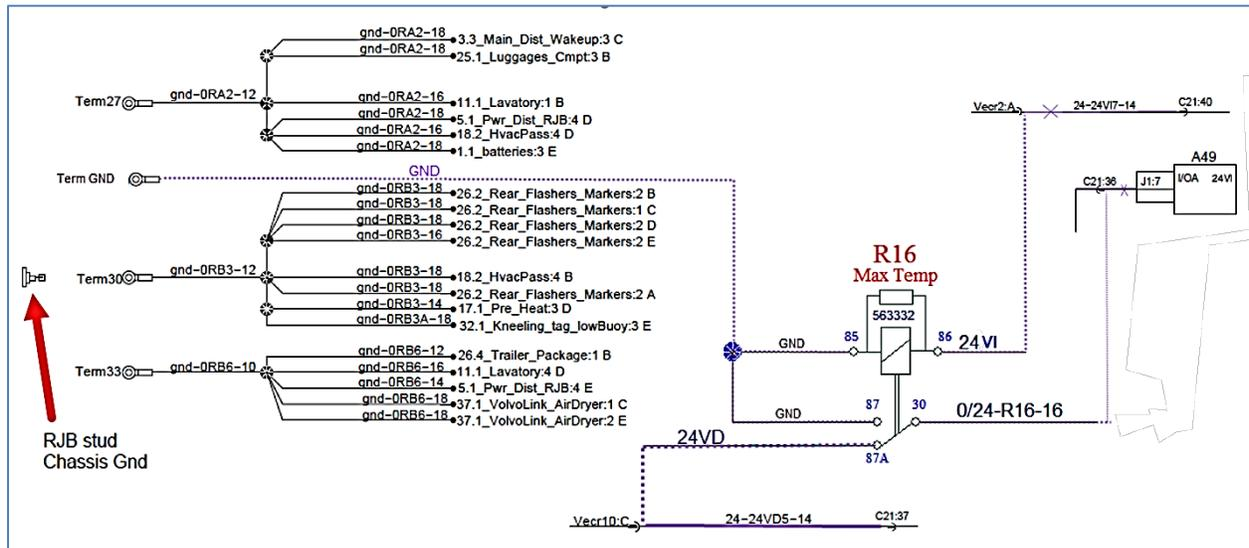

FIGURE 35
16. In the main power compartment: connect circuit 24VI of harness 0610219 to VECR connector 2 (red) pin A cavity (Figure 35).
17. Inside the main power compartment: connect circuit 0/24 of harness 0610219 to connector C21 pin 36 cavity (pin housing side) (Figure 35).
18. Inside the main power compartment: splice circuit 24VD of harness 0610219 with circuit 24VD5 (Figure 35) using butt splice 562228. Take note that 24VD5 is routed between connector C21 pin 37 cavity and VECR connector 10 (yellow) pin C cavity.
19. Inside the main power compartment: connect circuit GND of harness 0610219 to the chassis ground stud (Figure 35).